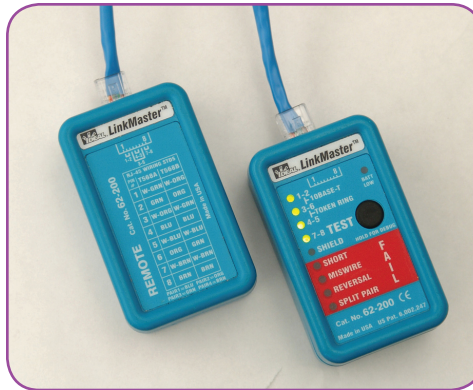

Figure D-11: Testing the Cable
11. Test the cable before installation (see **Figure D-11**). Refer to the cable tester manufacturer's literature for proper cable testing instructions.